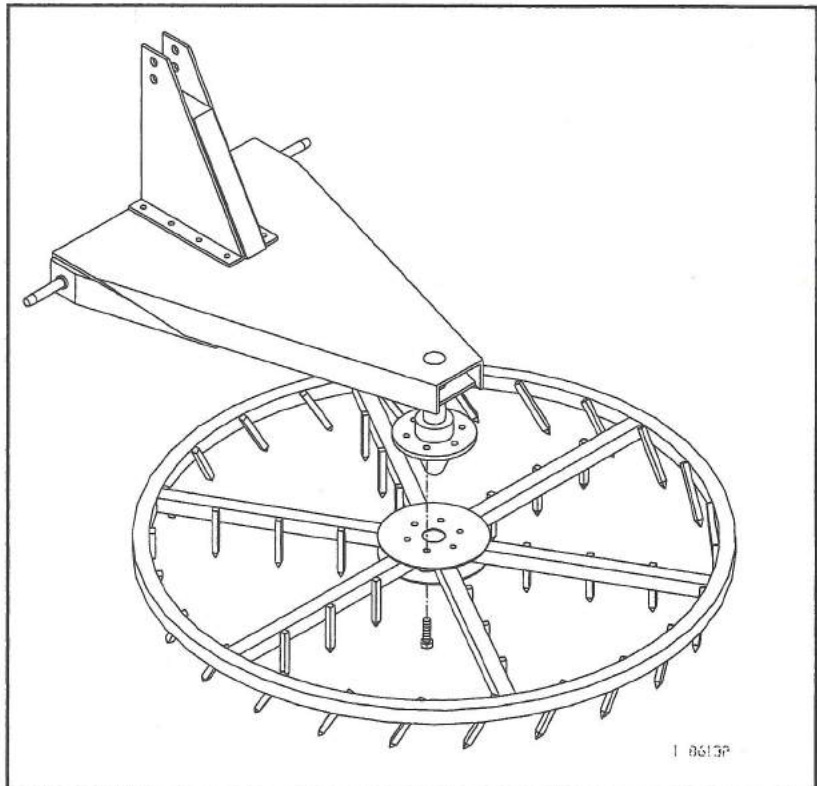

Figure 2B - Assembling the Grooming Ring and Hitch
3. Install the six (6) bolts which attach the grooming ring to the hub on the hitch. Note that the bolts must be threaded from the bottom of the ring up through the access hole and into the hub using a socket and ratchet extension (as shown in Figure 2B).